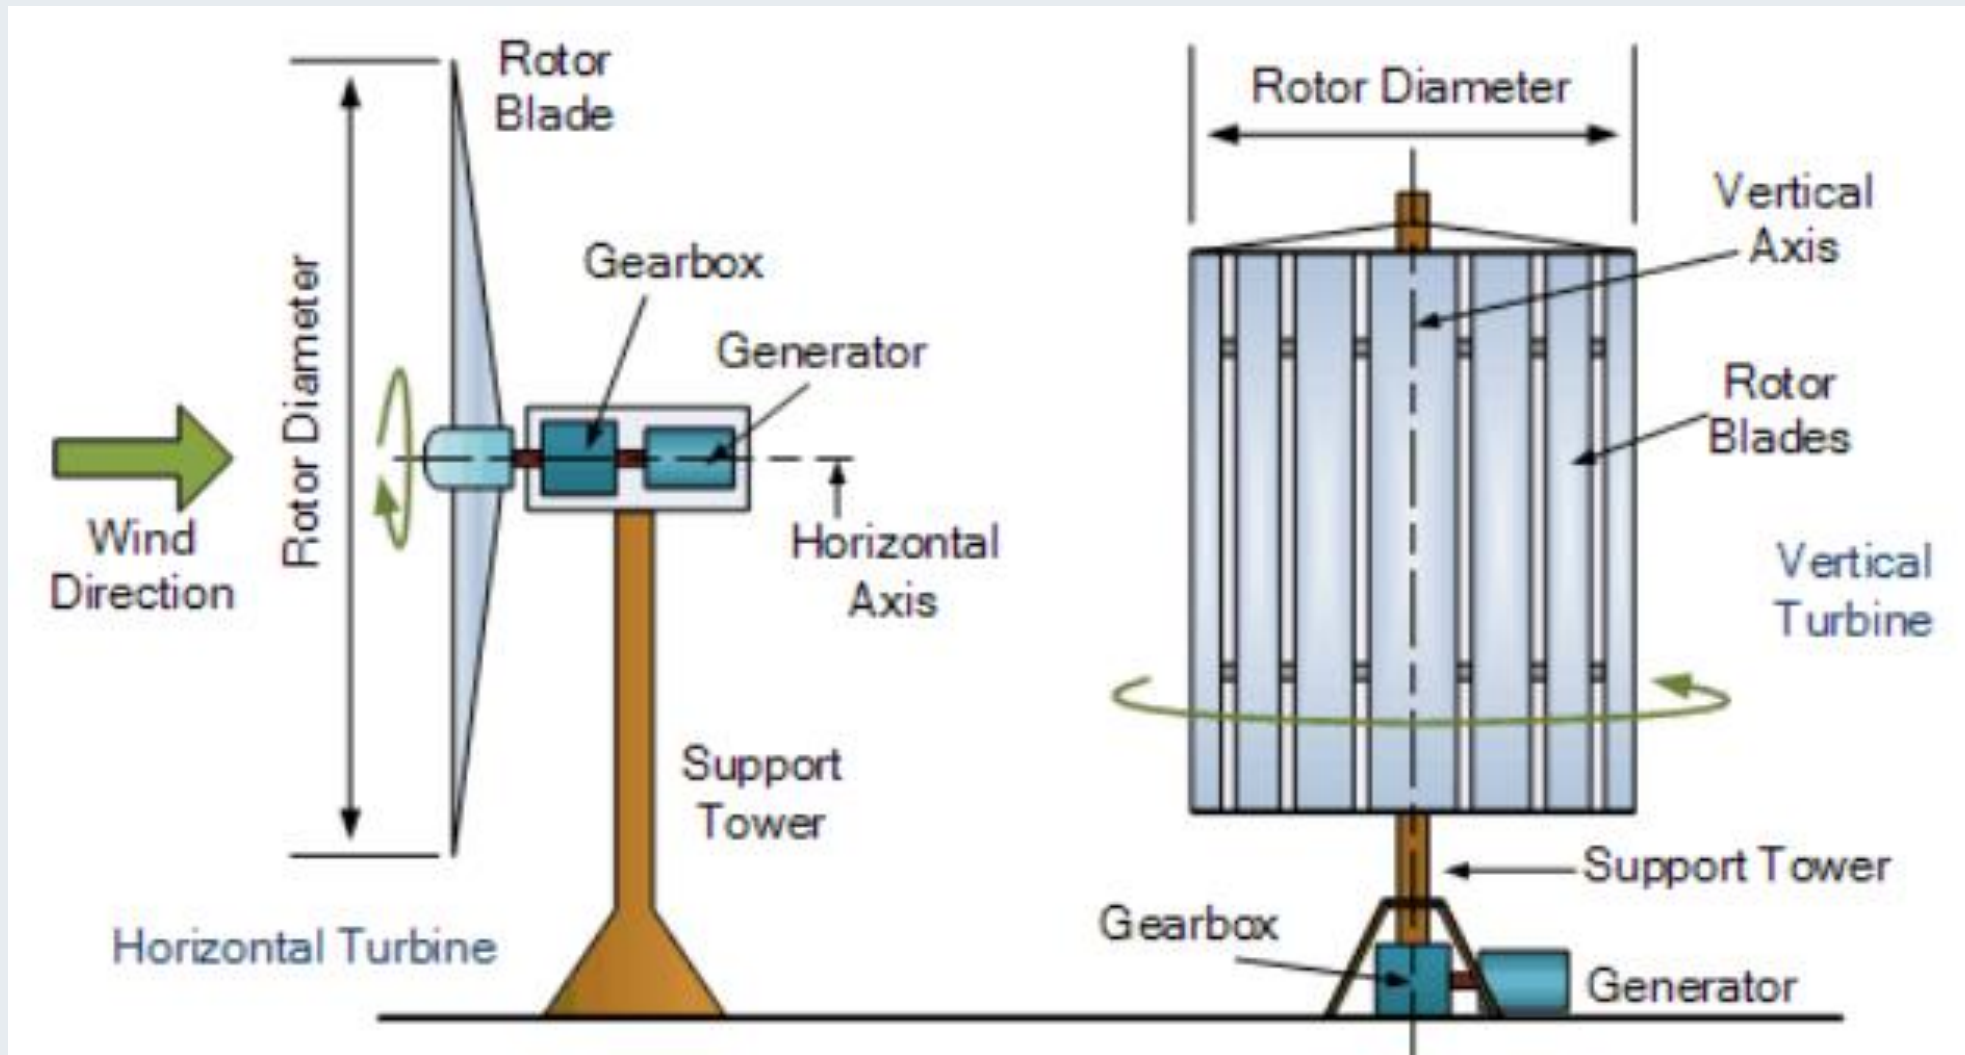

Figure 2: Wind energy conversion system. Source: [www.alternative-energy-tutorials.com](http://www.alternative-energy-tutorials.com)
- In modern wind turbines, wind rotates the rotor blades, which convert kinetic energy into rotational energy as presented in Fig.2.